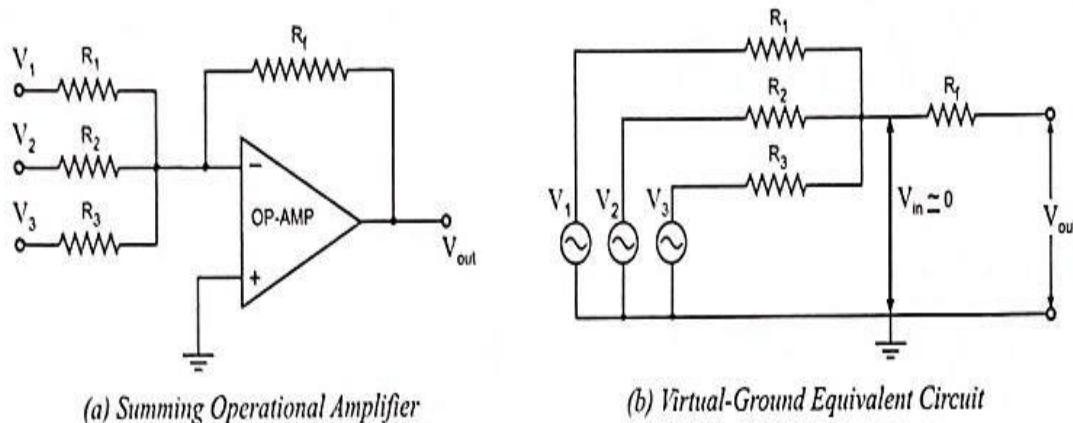

Fig. 36.1
each multiplied by a constant gain factor. Three-input summing circuit is shown in Fig. 36.1 (a).
Using the virtual equivalent circuit, as shown in Fig. 36.1 (b), the output voltage can be given in terms of inputs as
The circuit shown in Fig. 36.1 (a) can be used as a **summing amplifier**, **scaling amplifier** or **averaging amplifier**.
The circuit shown in Fig. 36.1 (a) can be used as an **averaging circuit**, which gives output voltage equal to average of all the input voltages. The modification required in the circuit are of equalizing all the input resistors  $R_1$ ,  $R_2$  and  $R_3$  i.e.,  $R_1 = R_2 = R_3 = R$  (say) and making gain equal to one over the number of inputs i.e.,  $= R_f/R = 1/n$  where  $n$  is the number of inputs.
**Weighted Summer Capable of Implementing Summing Coefficients of Both Signs:** The weighted summing amplifier shown in Fig. 36.1 (a) has the limitation that all the summing coefficients are of the same sign. Sometimes signals with opposite signs need to be summed up. Such a function can be implemented using two op-amps, as shown in Fig. 36.6. Assuming ideal op-amps, it can be easily shown that the output voltage is given by